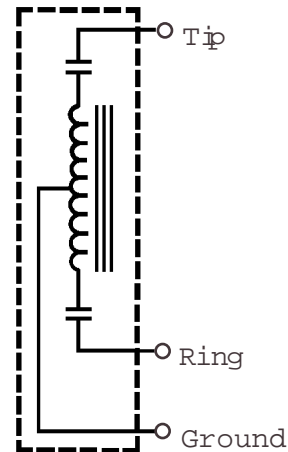

Figure 2: Harmonic Drainage Reactor (HDR)
metallic current flow. See Figure 2.
4.03 The HDR (Fig. 2) is noted for its wide voice-frequency band current drainage capability of the longitudinally induced harmonics (power influence), that cause audible noise.